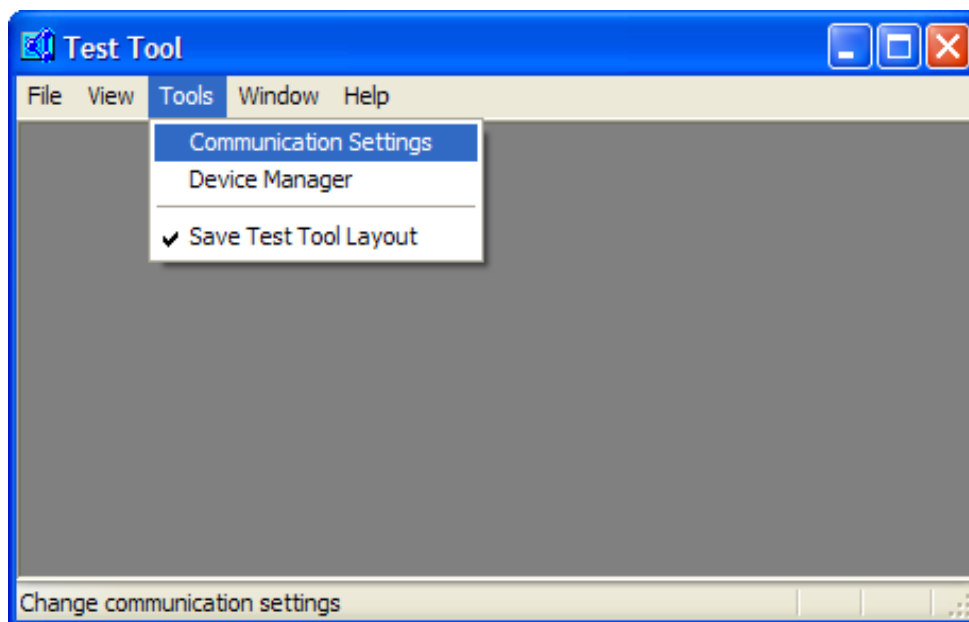

**Figure 7-1. Wireless UART Application**
4. Connect the board that is running the WirelessUART application to the serial port of the PC and press that board's reset button. A message appears on the PC display as shown in Figure 7-1.